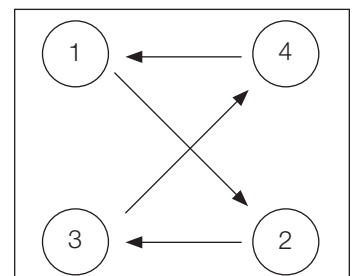

Figure 50
- e. Tighten the 4-Bolts. Step by step to avoid damaging the seals (Fig. 50).